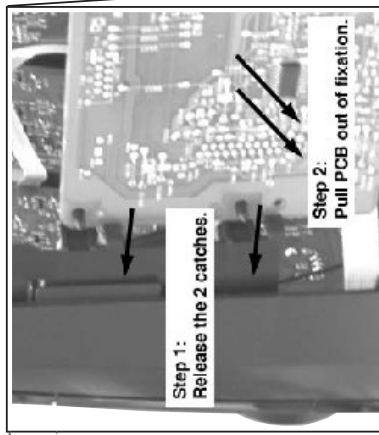
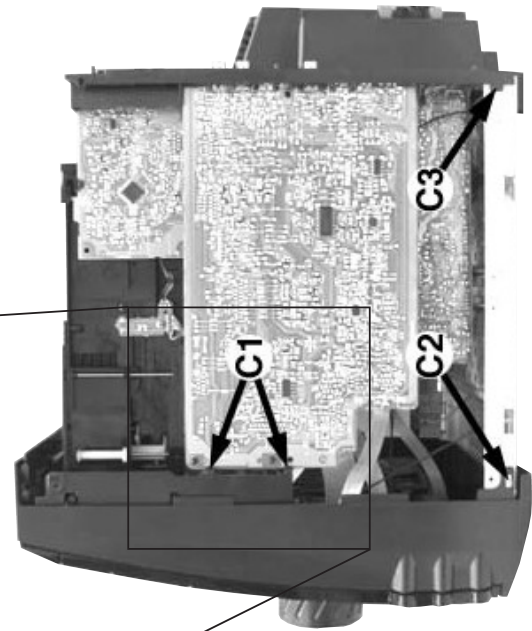
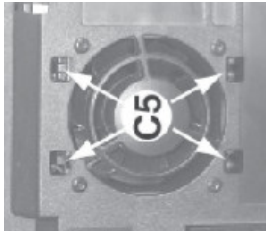
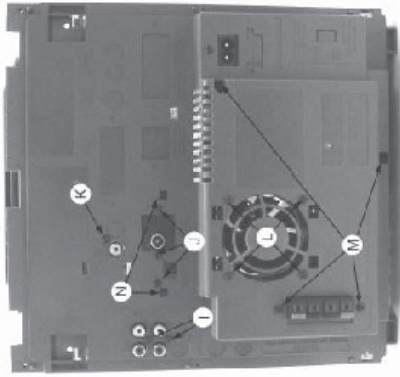

Figure 8
Figure 9
Figure 18
Figure 17
- 1) Remove 2 screws B as shown in Figure 8 from the bottom of the Cabinet Front.
- 2) Release the fixation of the AF Board to Bracket.CDC Right by releasing the 2 catches C1 (see Figure 9) and pulling the AF Board outwards as shown in Figure 8.
- 3) Uncatch 2 catches C2 (see Figure 9) on the left & right sides of the Cabinet Front and slides the Front Panel assembly out towards the front.
- 1) Remove 2 screws I (see Figure 17) to loose the AF12 Board.
- 2) Loosen 3 screws J and uncatch N (see Figure 17) to remove the Tuner Board.
- 3) Loosen 1 screws K (see Figure 17) to remove the Video Board.
- 4) Loosen 4 screws L (see Figure 17) and uncatch C5 (see Figure 18) to remove the Fan.
- 5) Loosen 3 screws M (see Figure 17) and uncatch C3 (see Figure 9) to remove the Panel Rear by sliding it out towards the rear.